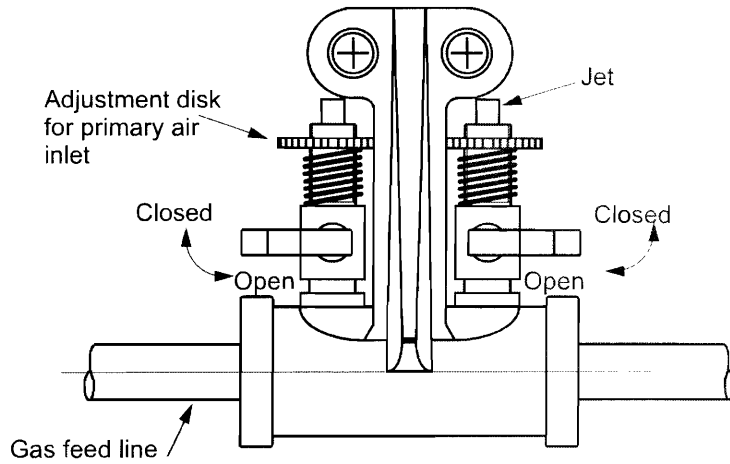

Fig.1 Burner Control Valve Assembly
- To light the appliance light a match or barbecue lighter, turn on the appliance valve by pushing in and turning the required burner control lever in the direction of the burner. (see Fig 1) and light the appliance burner.
- After lighting the burners for the first time it may be necessary to adjust the primary air controls on the burners to obtain the best flame. Place a pot of suitable size on the burner to be adjusted. Make sure that the pot contains water. Now adjust the air control discs (See Fig 1) until the flame is completely blue. If the flame is yellow or has yellow tips then further adjustment may be required. Once the flame is stable, blue in colour and burns without undue noise, the appliance is ready for use.
- After use, first close valve on gas cylinder. When the flame has extinguished close the burner control valve on the appliance by turning the lever to the off position as shown in Fig 1.